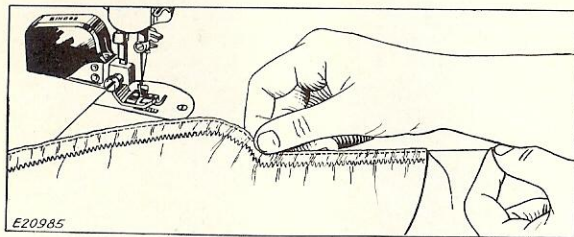

Fig. 17. Drawing up Machine Basting Threads and Distributing Fullness of Hem Evenly
- C. Draw up the basting threads, as shown in Fig. 17, and distribute the fullness of the hem evenly until the edge lies smoothly throughout the entire length of the hem.